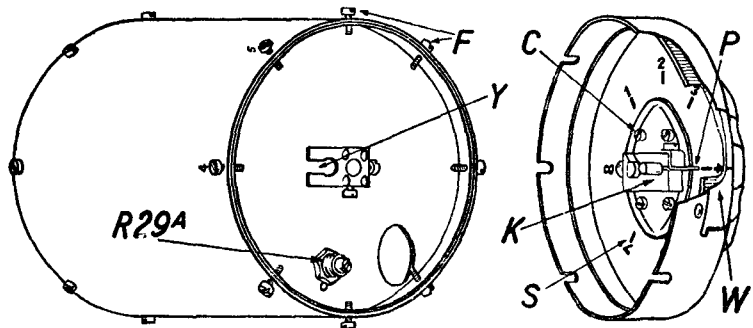

Fig. 2. Details of variometer
- (iii) Loosen the eight screws F (see fig. 2) and remove the end cover which carries the variometer knob.
- (iii) Remove the coupling K (see fig. 2) by loosening the set screw.